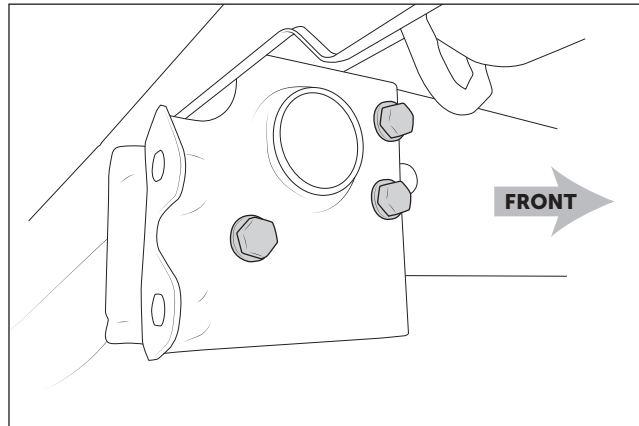

Figure 34
1. Working one side at a time, remove the three hitch assembly bolts (fig. 34). SAVE hardware.
- D. Torque factory hitch assembly bolts (fig. 34) to **116 lb-ft.**